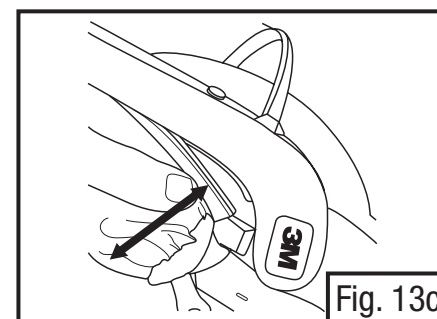

Fig. 13c
- Grasp the black faceseal gasket and slowly pull straight out in small sections, working your way around the faceseal (Fig. 13c).
- On the faceseal, locate the side with the fabric “loop” which is sewn into the elastic. Holding the faceseal with this side facing up, grasp the black gasket on the faceseal and align with the edge of the groove in the visor frame. Starting with one edge, press the gasket firmly into the groove in small sections, working your way around the faceseal (Fig. 13c). Both gasket ribs should be fully inserted into the groove.